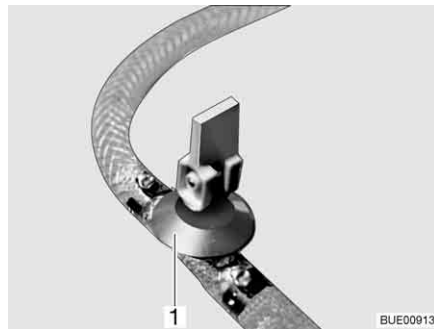

Fig. 217 Drain cock
- Close the drain cock(s). Position the rocking lever (Fig. 217,1) horizontally.
- Open drain cock(s) (Fig. 217). To do so, set the rocking lever (Fig. 217,1) in a vertical position. The boiler is drained to the outside.